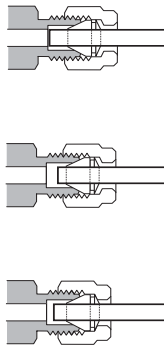

Figure 14 Completed fitting
- 10** Both correctly- and incorrectly-swaged connections are shown in Figure 14. Note that the end of the tubing in a correctly-swaged fitting is not crushed and does not interfere with the action of the ferrules.